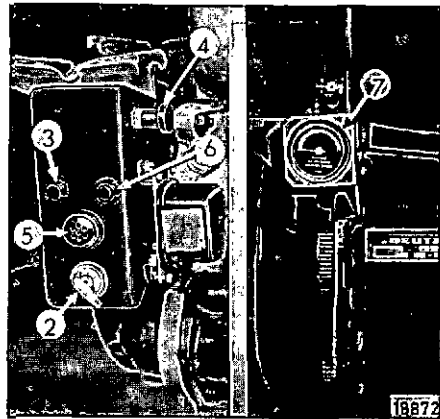

Fig. 14
4. Push in switch box key 2 (Fig. 14) which should make the red charging indicator lamp light up.
8. An oil pressure indicator lamp 6 (fig. 14) or an oil pressure gauge 7 can be supplied as an extra. During operation, the pointer of the oil pressure gauge must be in the green field. If it drops to red* or if the green oil pressure indicator lamp lights up, the engine must be shut down immediately. Trace the cause of the low oil pressure with the aid of the Trouble Chart and remedy.
3. On the electrically started engine, the charging indicator lamp 3 (Fig. 14) lights up after the engine has stopped. Pull out switch box key 2 which causes the charging indicator lamp to go out.